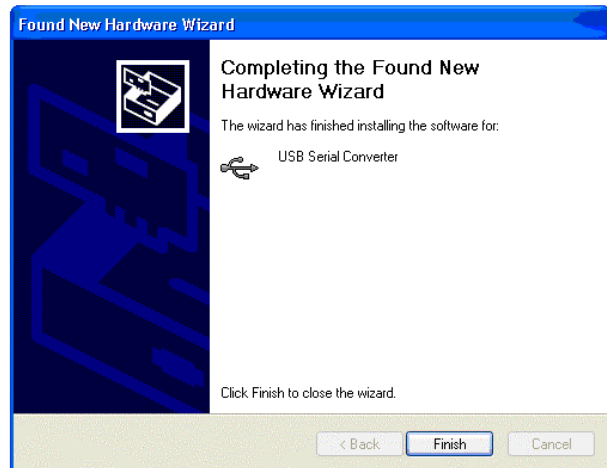

Figure 4 (Step 6)
- 6) Install drivers: (see Figure 4 below)